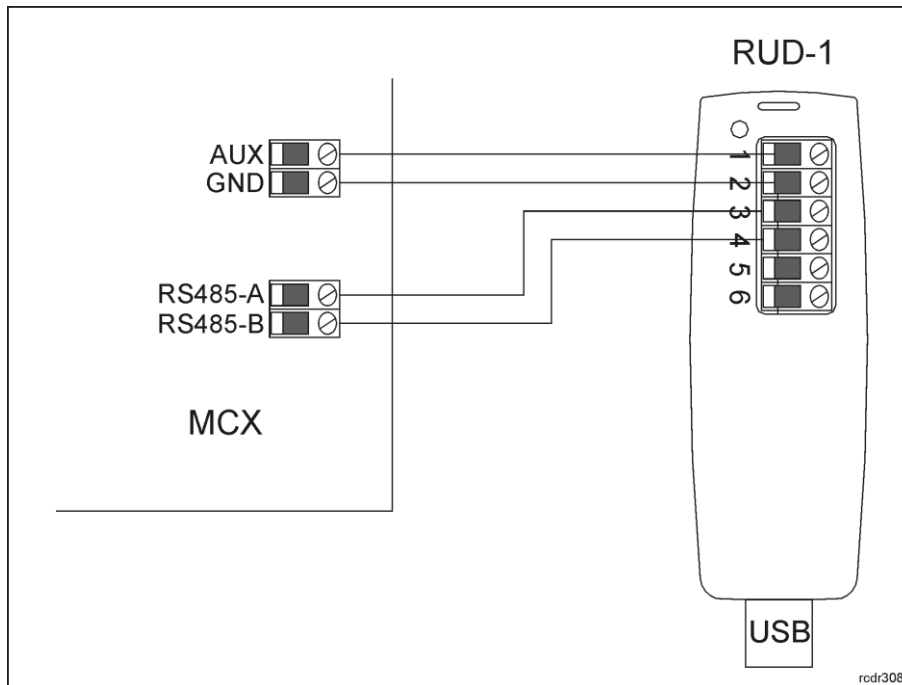

Fig. 1 Connection of expander to RUD-1 interface.
In order to start the configuration, connect the expander to RUD-1 interface (fig. 1) and start RogerVDM software.
1. Connect the expander to RUD-1 interface according to fig. 1 and connect RUD-1 to computer's USB port.